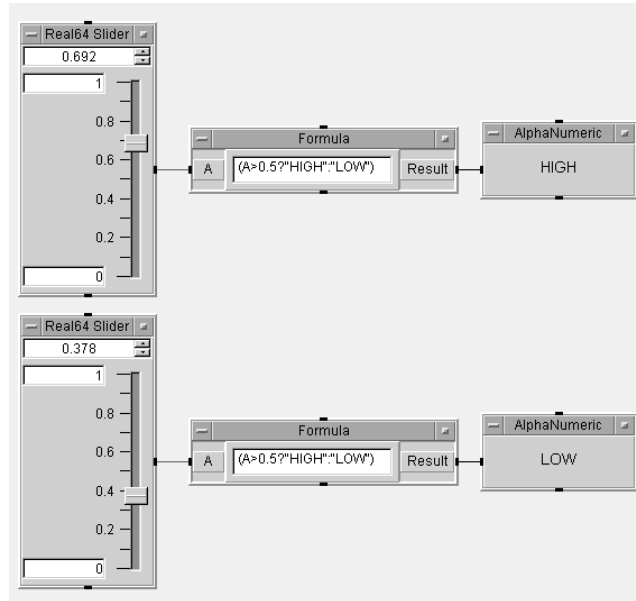

Figure 18.6. Formula object – the Triadic Operator
- Use the Triadic Operator (condition ? expression1 : expression2) instead of the If/Then/Else objects with Gates and a Junction. See Figure 18.6.